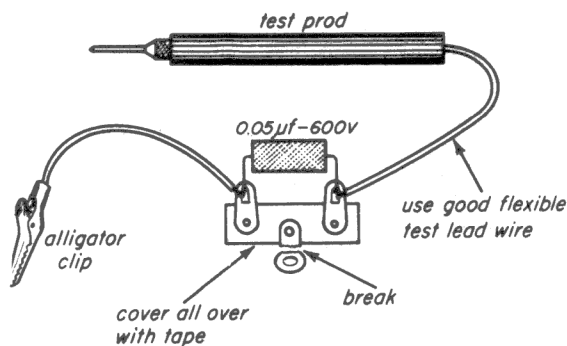

Fig. 38-3
Step 4. Inject a 6-volt 60-cycle a-c signal into the control grid of the power-amplifier tube. Do this by connecting a capacitor ($0.01 \mu\text{f}$ or larger) between the grid of the power-amplifier tube and any convenient source of filament voltage on the chassis. What is heard in the loudspeaker? What does this test tell about the condition of the output stage? A convenient device for this and other tests may be made from an alligator clip, a terminal strip, a $0.05 \mu\text{f}$ 600-volt paper capacitor, a test prod, and some test lead wire, as shown in Fig. 38-3.